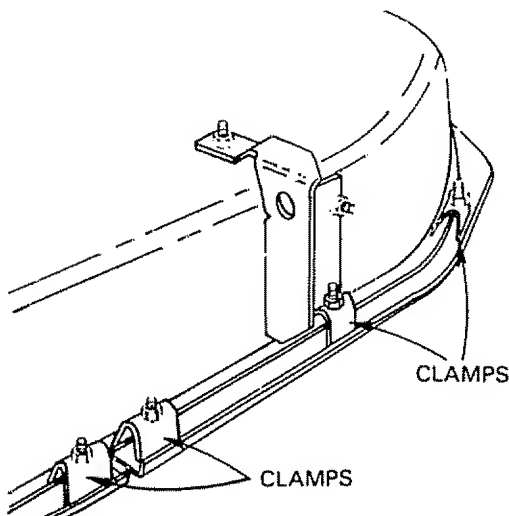

FIGURE 7
- a. Place clamps (Fig. 7) over holes in L.H. and R.H. baffles (Fig. 7). Bolt heads to underside of mower housing. Tighten securely. NOTE: Tighten hardware assembled in step 10 securely.